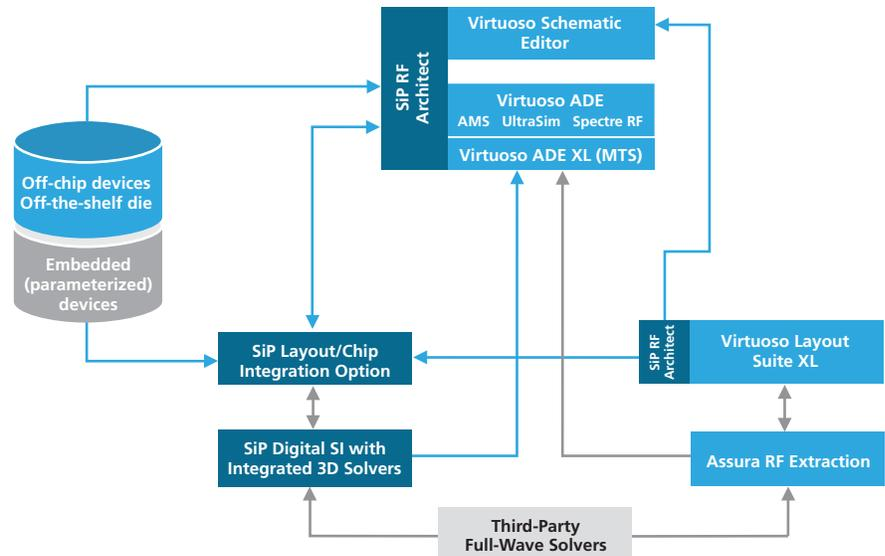

Figure 2: Cadence SiP RF/AMS design
While SiP design makes it possible to combine RF and analog chips of disparate technology on the same sub-strate, it presents a number of challenges. These include designing and integrating RF/analog chips with substrate-level buried RF passive devices as well as enabling top level pre- and post-layout circuit simulation of the entire SiP design. As seen in figure 2, Cadence SiP RF design technology provides the proven path between analog design and circuit simulation and SiP module layout. It delivers an integrated flow between the Virtuoso Analog Design Environment and SiP physical package layout and signal integrity (SI) extraction technologies. It enables the creation of a single, circuit simulation-capable, top-level SiP RF module schematic that includes the RF/analog ICs and substrate-level passive components (including packaged and embedded parameterized discreties). This schematic drives detailed SiP module layout that includes constraint-driven interconnect routing and full SiP tapeout manufacturing preparation.